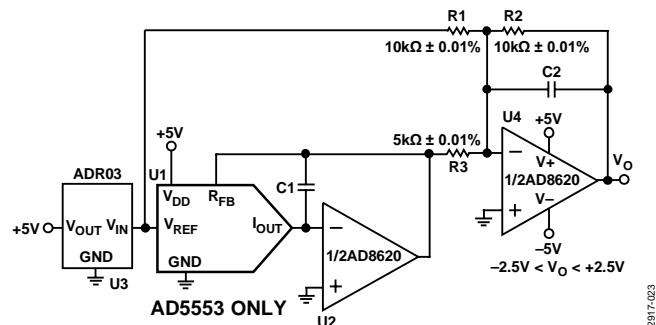

Figure 22. 4-Quadrant Multiplying Application Circuit
In some applications, it may be necessary to generate the full 4-quadrant multiplying capability or a bipolar output swing, which is easily accomplished by using an additional U4 external amplifier configured as a summing amplifier (see Figure 22). In this circuit, the second amplifier, U4, provides a gain of 2 that increases the output span magnitude to 5 V. Biasing the external amplifier with a 2.5 V offset from the reference voltage results in a full 4-quadrant multiplying circuit. The transfer equation of this circuit shows that both negative and positive output voltages are created as the input data (D) is incremented from code zero ($V_{OUT} = -2.5$ V) to midscale ($V_{OUT} = 0$ V) to full-scale ($V_{OUT} = +2.5$ V).